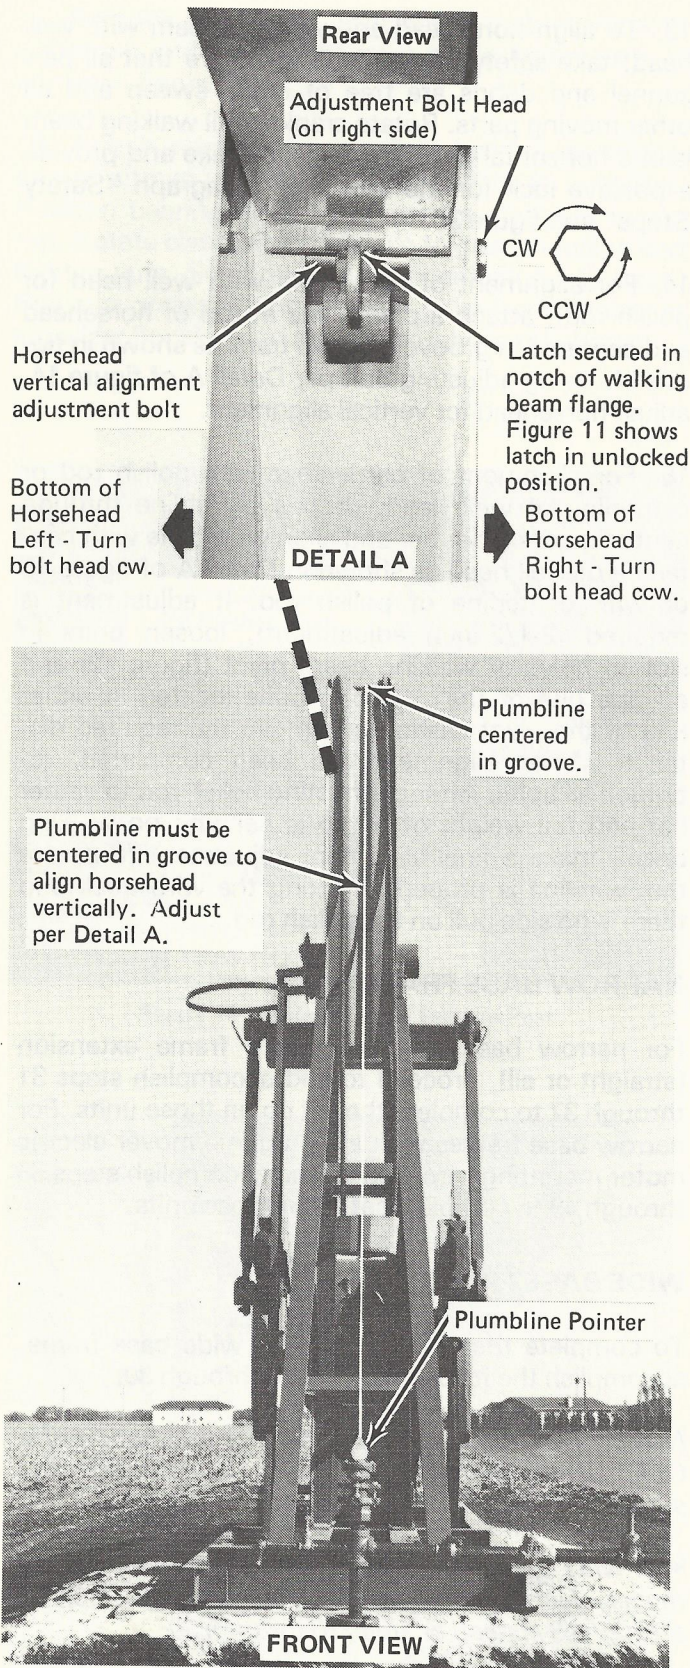

Figure 14. Horsehead Alignment
14. For alignment of horsehead with well head (or polish rod), attach a plumb line at top of horsehead and centered in groove of cable track as shown in figure 14. Using adjusting bolt per Detail A of figure 14, adjust horsehead for vertical alignment.